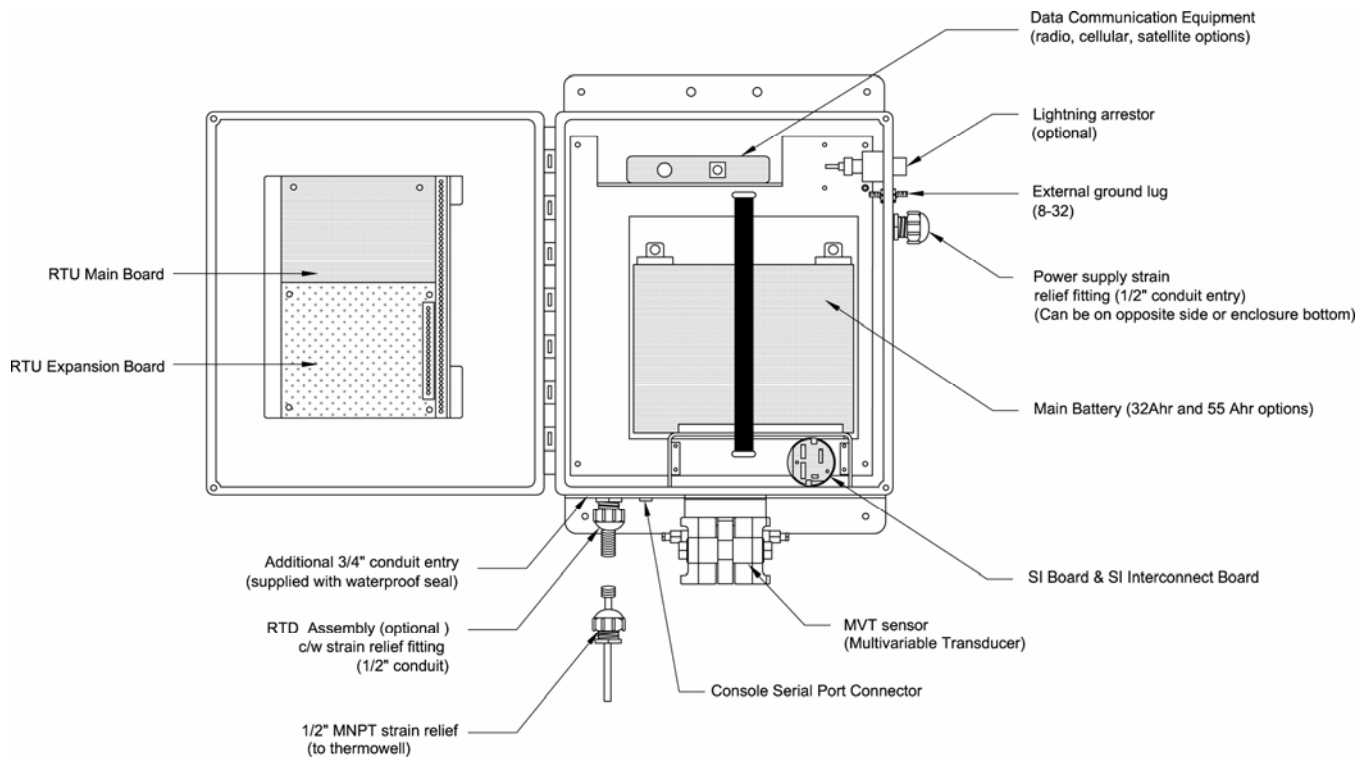

Figure 2.5—Components of 1141C
- Scanner 1141, completely assembled (Figures 2.5 and 2.6)
Power supply/solar panel wires enter the enclosure through the side or bottom conduit entry (Figures 2.5 and 2.6). Refer to Outline Dimensions, page 91 for size and location of the conduit entry. The charge controller is integral to the main board.